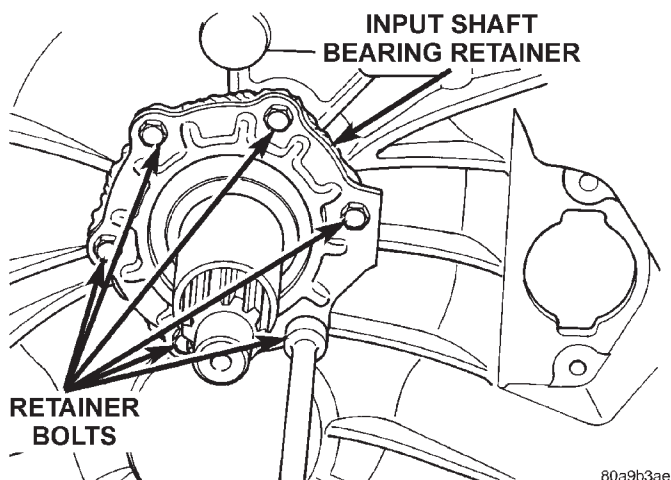

Fig. 11 Input Shaft Bearing Retainer Bolt Removal
(7) Remove bolts attaching input shaft bearing retainer in front housing (Fig. 11). Note location of oil feed formation on retainer for installation reference.